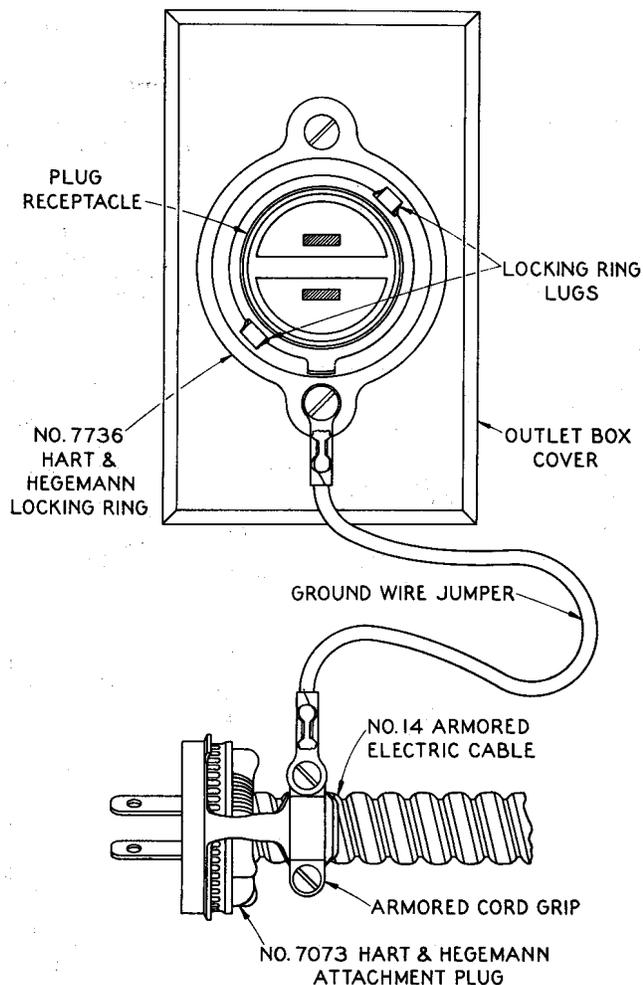

Fig. 5 — 2-wire Receptacle and Plug
2.08 A parallel blade, single not duplex, flush-type receptacle for 2-wire attachment plugs should be provided. Grounding is accomplished by terminating the ground wire jumper attached to the armor of the cable under one of the attachment screws of the locking ring as shown in Fig. 5.
2.09 Connection between the 2-wire receptacle and the booth lighting equipment is made with a 2-conductor armored flexible cable, the plug end of which is secured in the receptacle by means of a locking ring and locking-type plug as shown in Fig. 5 and 6.